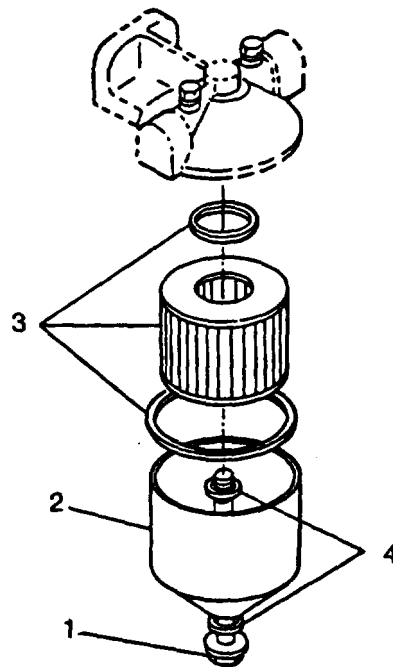

FIGURE 3-12. Fuel Filter
- a. Remove through bolt (1, FIGURE 3-12) and cannister (2).
- b. Remove and discard fuel filter (3) and gaskets
- c. Install new filter (3) and gaskets.
- d. Fill cannister (2) with clean fuel.
- e. Install cannister (2) with bolt (1).